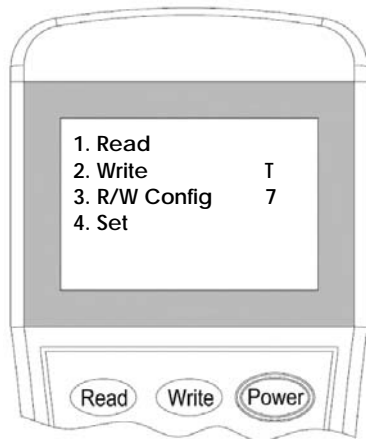

Figure 11
2. Switch-on the programmer, then press button **"3"** to enter to **Configuration mode** (Figure 11).